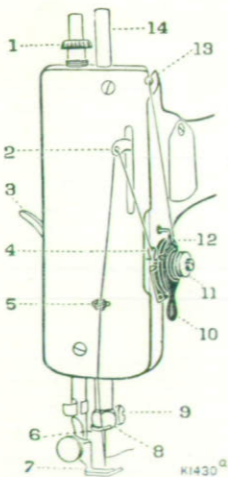
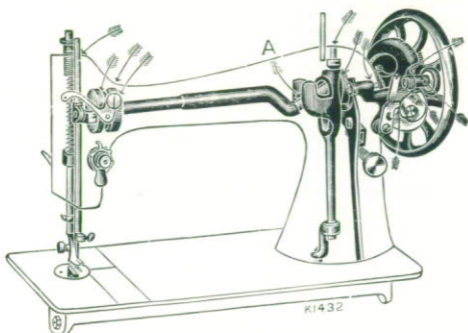

Fig. 5.
Fig. 14.
Tighten the balance wheel (see Fig. 3) and place a piece of material under the presser foot (7, Fig. 5). Then lower the latter by means of the lifter (3, Fig. 5). Now **turn the handle over from you** to work the machine, without its being threaded, until you are accustomed to guiding the material with the left hand.
(See Fig. 5)
Place a reel of thread on the spool pin and pass the end of thread through the notch at top of the face plate (13, Fig. 5); then thread the winder by passing the thread upward through the eyelet (1) and into the notch (2). Draw the knob (3) to the left, and place an empty bobbin between the cup at the right (4) and the centre hole at the left. Now clamp the end of thread between the cup and the end of the bobbin, turn the balance wheel towards you and wind by operating the machine as when sewing. When nearly full remove the bobbin by pulling the knob (3) to the left; then withdraw the winder from the ledge of the balance wheel and tighten the latter by turning the stop motion screw from you.
Raise the needle bar to its highest, lift the presser foot (7, Fig. 5), at the same time pressing the tension release (10, Fig. 5) with the thumb of the right hand. Move the material back and to the left, and sever the threads by passing them over the thread cutter above the presser foot. Leave a few inches of thread under and at the back of the presser foot.
For ordinary family sewing it is seldom necessary to change the pressure on the material. If sewing fine silk or flimsy material, lighten the pressure by giving the thumb screw (1, Fig. 5) two or three turns upwards. To increase the pressure, give the thumb screw a few turns downwards.
If used constantly, the machine should be oiled daily, while with moderate use, an occasional oiling is sufficient. A drop of oil applied at the points indicated by arrows in Figs. 14 and 15 is sufficient. The small plate in front of the machine and the larger plate at the back should both be turned up and oil applied to the parts exposed. **It is important that oil be applied to point "A," Fig. 14, when the take-up lever (2, Fig. 5) is at its lowest, and a little oil rubbed over the surface of the shuttle race.** There are also two holes in the hand attachment to which oil should be applied occasionally. When oiling, insert the oil can spout well into the holes.
The thread take-up spring (4, Fig. 5) is not broken.
Stitches Looping. See that the spring (4, Fig. 5) is not broken, that the upper and under tensions are equal (see page 11), that both shuttle and needle are properly threaded, that the thread is of good quality and of correct size for the needle (see table on inside of back cover).